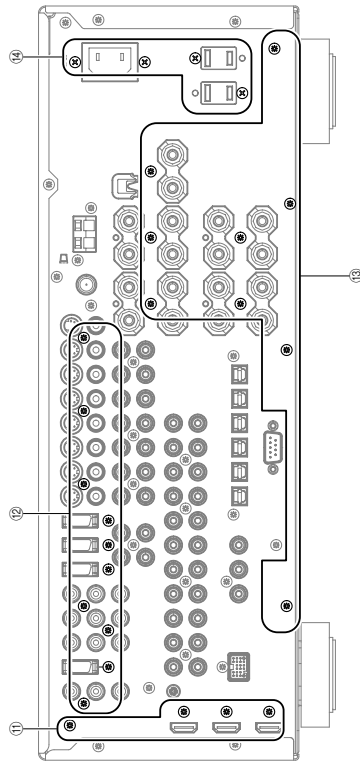

Fig. 5
- Remove 4 screws (⑪). (Fig. 5)
- Remove 6 screws (⑫). (Fig. 5)
- ⑪のネジ4本を外します。(Fig. 5)
- ⑫のネジ10本を外します。(Fig. 5)
- Remove 11 (U, C, T, A, B, G, E models) / 13 (R, L models) screws (13) and 4 (U, C, R, T, A, B, G, E, L models) / 2 (K model) screws (14). (Fig. 5)
- 13のネジ9本、15のネジ4本を外します。(Fig. 5)